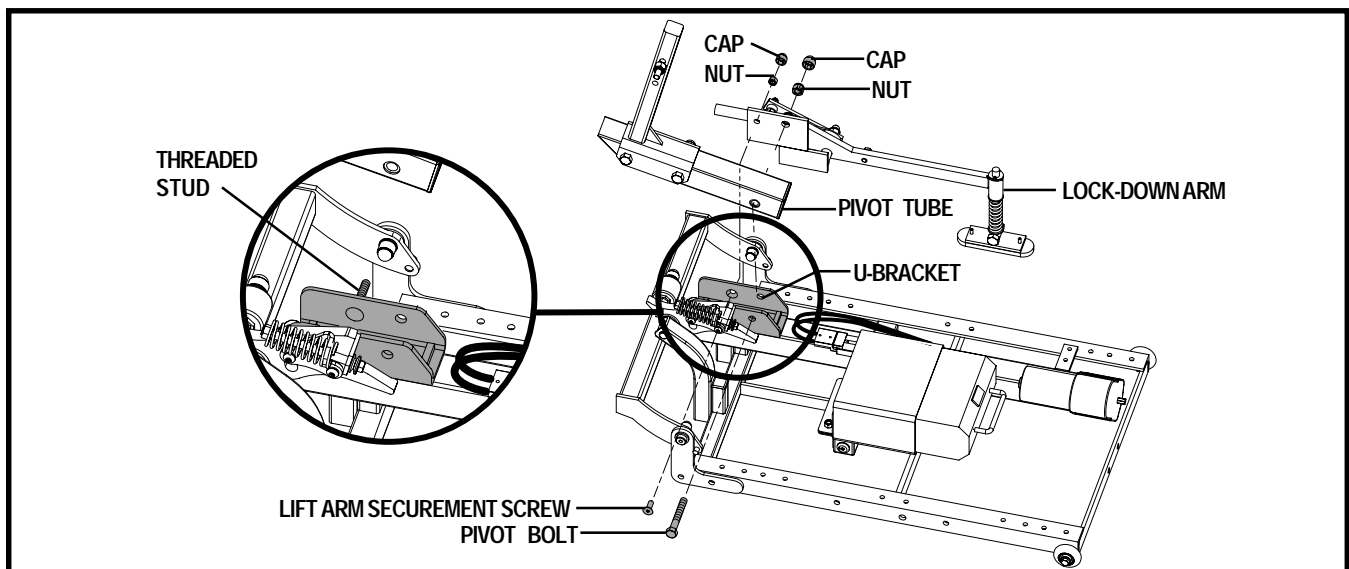

Figure 4. Lock-Down Arm Installation
NOTE: If your lift system is equipped with a permanent threaded stud, removal of the pivot tube and pivot bolt is not necessary for lock-down arm installation. See figure 4.
2. Apply power to the lift until there is enough clearance to remove the pivot bolt. See figure 4.
4. Remove the pivot tube. See figure 4.